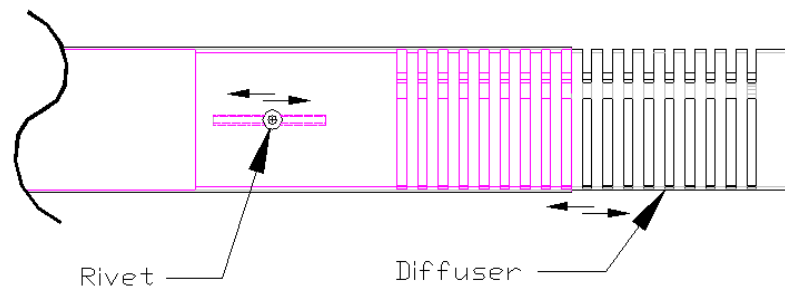

Figure 4
5. Insert the Rivets into the holes of the tube and through the slots of the Diffuser. Pop rivet are used to secure the Diffuser in place. The Diffuser allows a 1 ½" vertical movement up or down to allow for any measuring errors as shown in Figure 4.